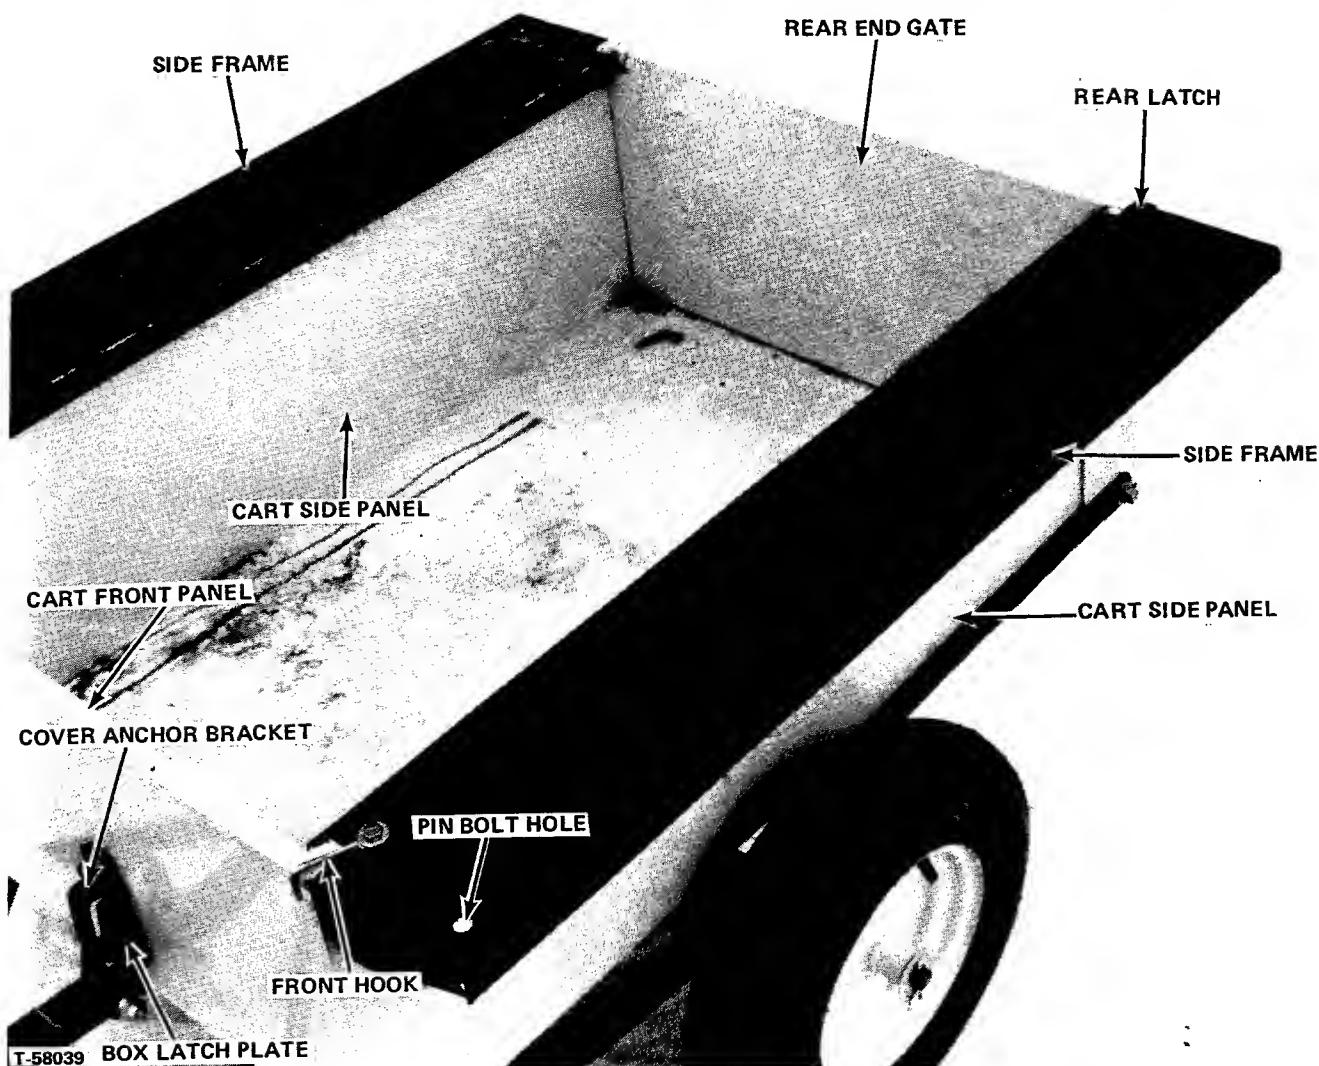
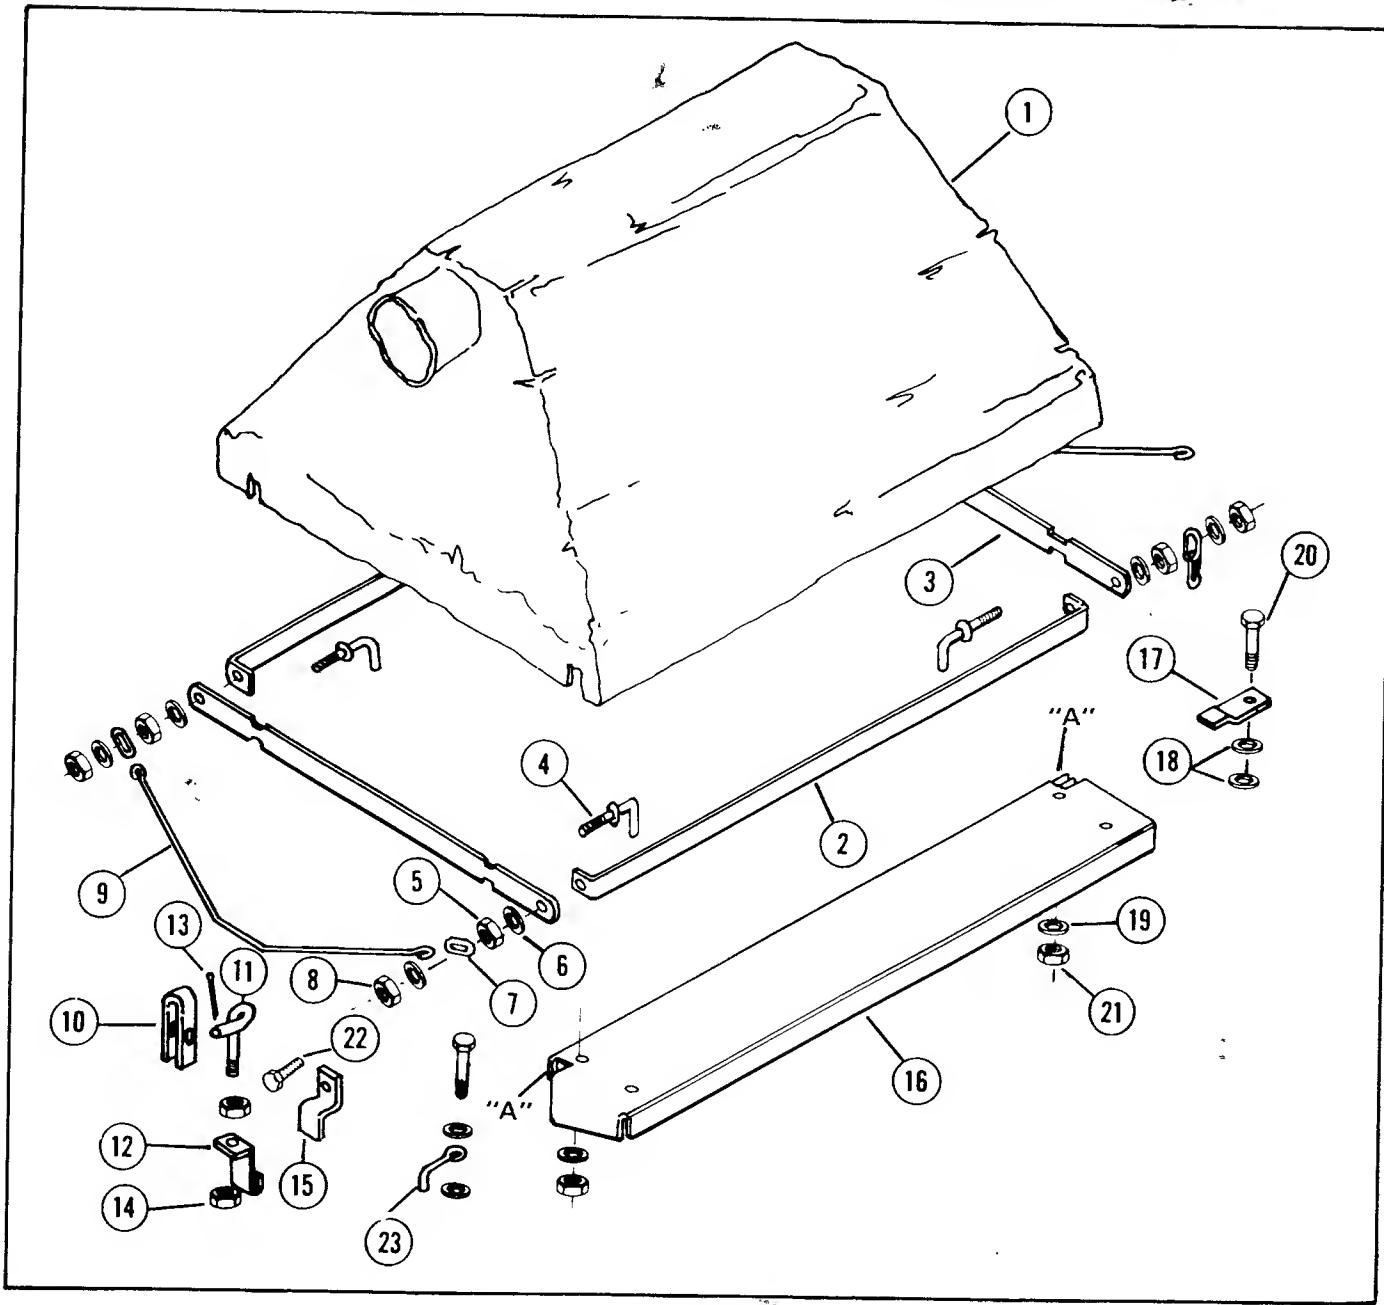

FIGURE 14
FIGURE 15
1. (See Figure 14). Remove rear end gate from cart. (NOTE: Item numbers used below refer to "Item Reference Number" in Figure 15.)
2. (See Figures 14 and 15). Starting at rear of cart align the folded lip edge "A" of item 16, side frame, with the inner vertical leg of the top edge of the cart side panels. Slide the side frame forward interlocking the vertical leg of the cart side panel top inside the folded edge "A" of the side frame. Slide side frame fully forward until it touches the cart front panel. Install the other side frame in same manner on the other cart side panel.
3. Install Item 23, front hook, with Item 20, two of item 19, items 18 and 21 in the front inner corner of both side frames as shown in Figures 14 and 15. Swing hooks over cart side panels as shown and tighten locknut, 21.
4. Install item 17, rear latch with item 20, two of item 18 and items 19 and 21 as shown in Figures 14 and 15. Reinstall the rear end gate. Tighten locknut, 21, on rear latch capscrews, 20, just tight enough that latches can be turned to overlap the top corners of the end gate and hold it in place, but can be turned away by hand for end gate removal.
5. Remove the top capscrew holding the box latch plate to the cart front panel and install the cover anchor bracket, item 15, using longer capscrew, item 22. (Figures 14 and 15)
7. Insert the side bar and end bar reinforcements in the cart cover with the side bar bent ends pointing inward (See Figures 15, 16 and 17). Insert the pin bolts through the holes in the side and the end bars with the smooth end of pin down through pin bolt hole in each outer corner of the side frame. Place flat washers and hex nuts on threaded portion of pin bolt and tighten nuts (See Figure 17).
8. (See Figures 15 and 16). Insert bail, 9 through the slotted holes in lever, 10, attach one link to hook on each end of bail. Place the links over ends of pin bolts on front side of cart and hold in place with flat washers, 6 and locknuts, 8.